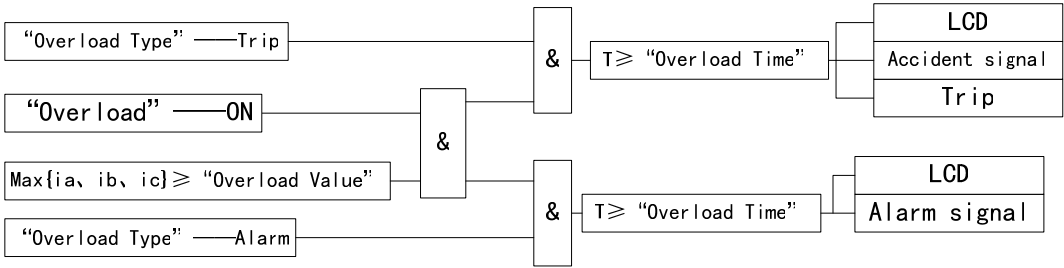

Figure 3-6: Logic diagram of overload protection action
- If an alarm is triggered, the protection device will drive the alarm signal relay 8J (315/316), display the alarm information on the LCD, and the panel alarm light will light up (the signal relay, LCD alarm information prompt, and alarm indicator light must be manually reset). The logical block diagram of the action is shown in Figure 3-6: